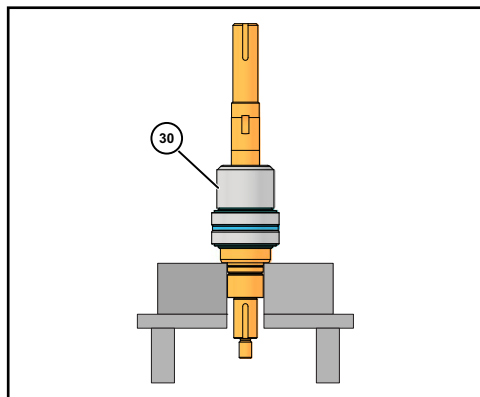

Figure 57 - Install Bearing Spacer
9. Install the bearing spacer (Figure 57, item 30).